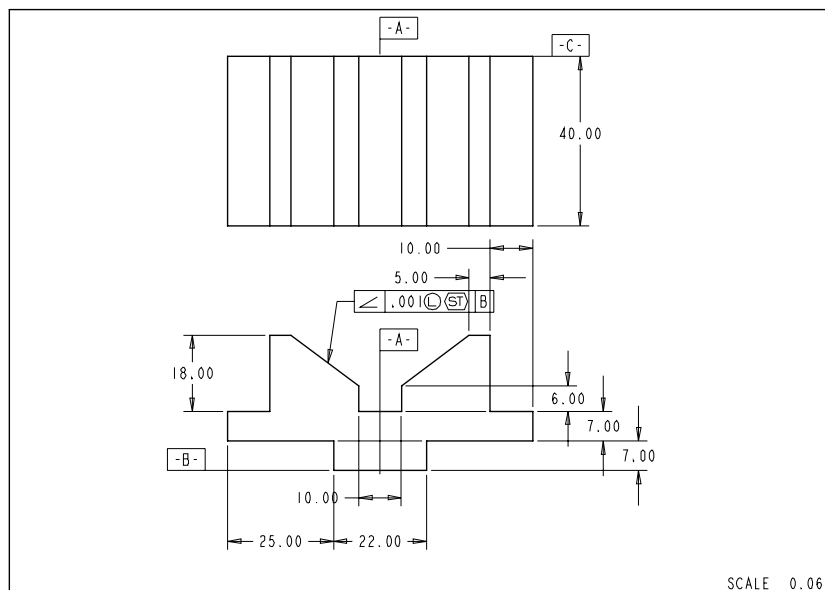

Figure 11-25 Top and the front views of the model with the dimensions, datum planes, and the geometric tolerances
13. The drawing views after adding the gtol should look similar to the one shown in Figure 11-25.